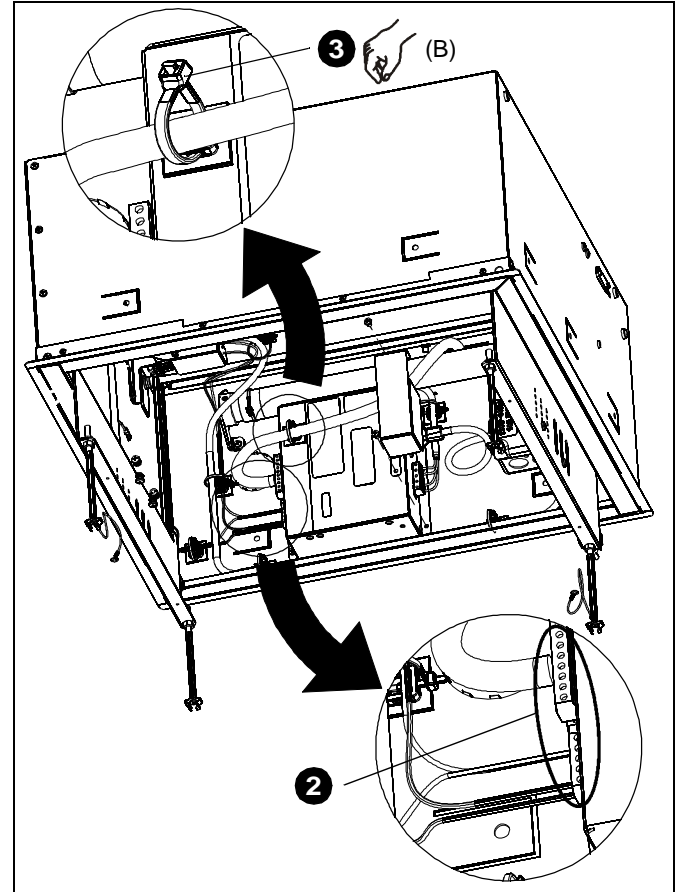

Figure 5
2. Reconnect control harness and limit switch harness (three plugs). (See Figure 5)
3. Install new cable tie (B) around control harness. (See Figure 5)